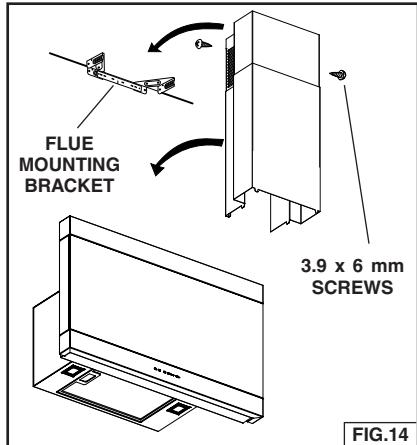

FIG.14
7. Secure upper flue to flue mounting bracket with (2) 3.9 x 6 mm screws. Fig. 14.